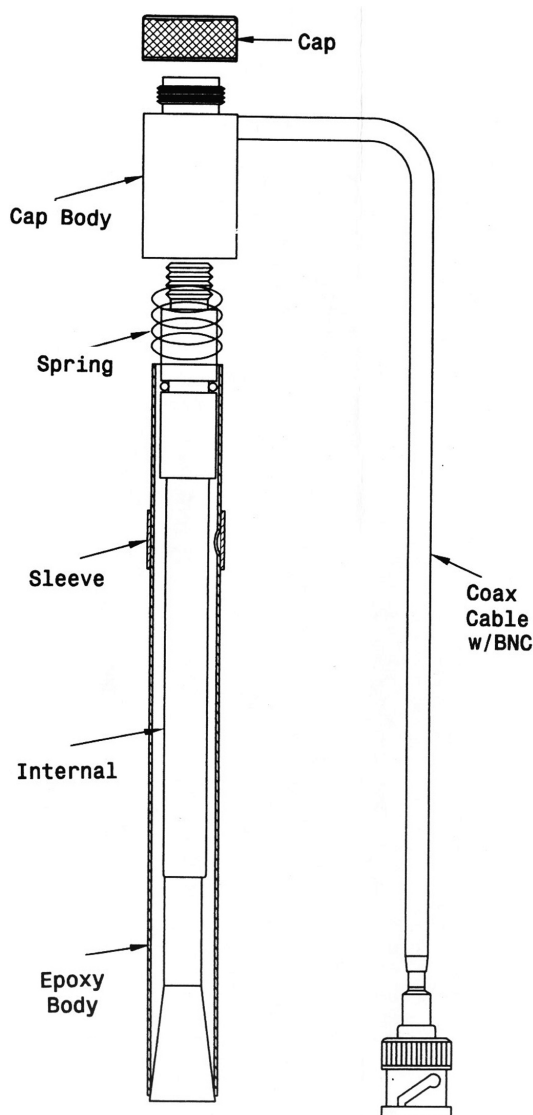

Figure 1: AC018 Cl⁻ Ion Selective Electrode
- a. Slide the sleeve of the electrode cap down to uncover the fill hole (see Figure 1)
- b. Fill the reference chamber with the Reference Fill Solution provided level with the fill hole on the electrode (minimum of 3 inches from the sensing element (see Figure 1))